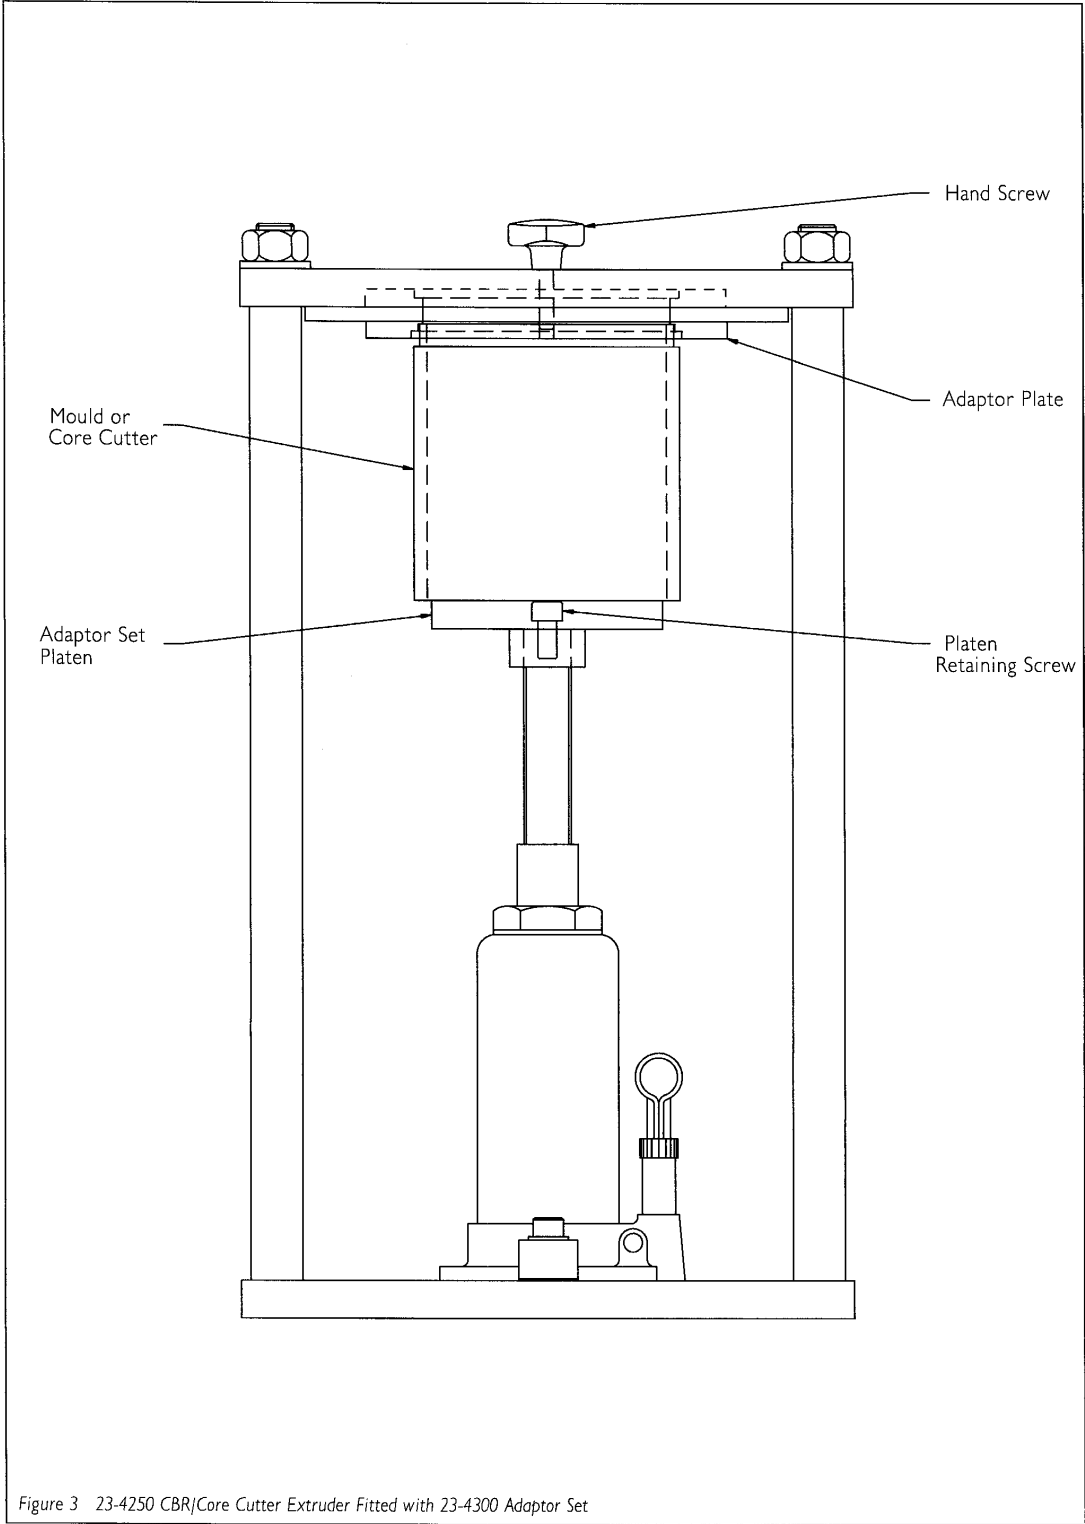

Figure 3 23-4250 CBR/Core Cutter Extruder Fitted with 23-4300 Adaptor Set
**The Adaptor Set 23-4300 (Figure 3)** is used in conjunction with 23-4250 and enables those moulds and core cutters listed under 23-4200 to be extruded.
The adaptor set may be used with the CBR/Core Cutter Extruder in order to extrude samples from 100 mm (4") moulds and core cutters. See figure 3.